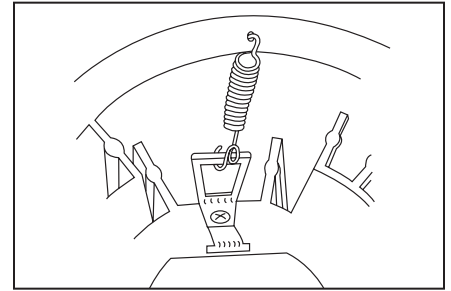

Figure 8
**Step 1.** Install open trims using supplied coil springs or torsion springs. (Reference Figure 8 for coil spring installation).